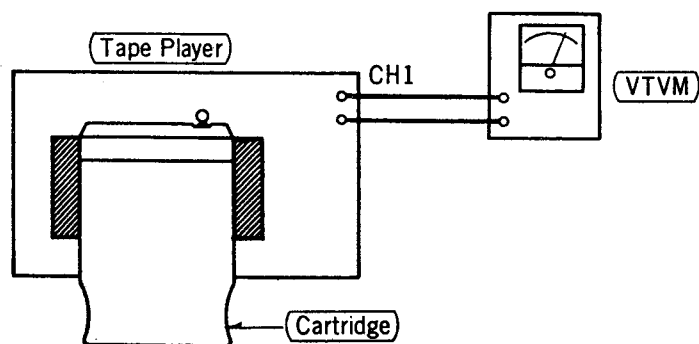

Fig. 14
2. Play the tape and adjust screw (fig. 11) for minimum sound on left channel, or connect the equipment as shown in fig. 14.